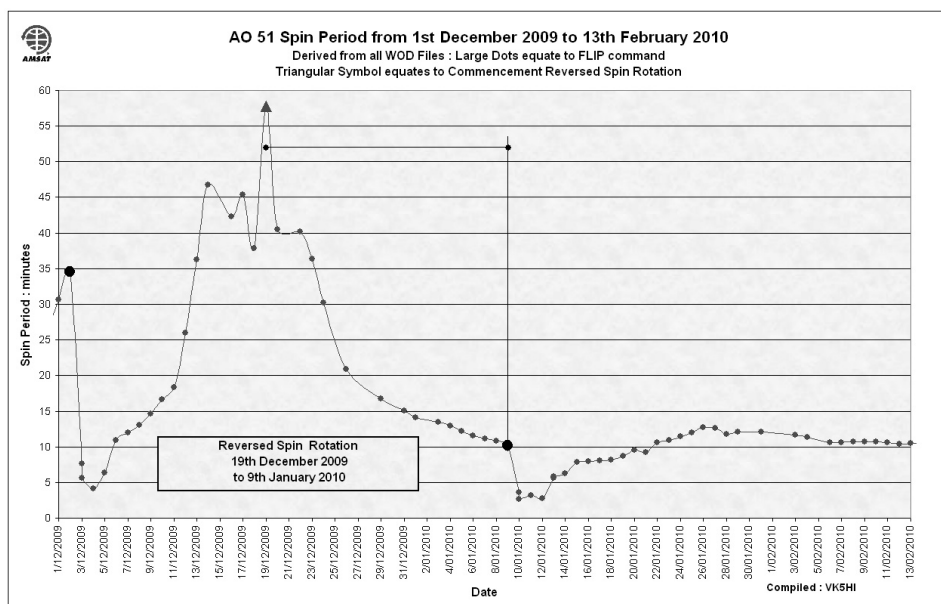

Figure 8
Figure 8 identifies the spin period profile following the flip experiment.
- From Figure 8 we can clearly observe that the spin period did indeed fluctuate. Following the flip command the spin period tended towards the launch value on 4 December 2009.